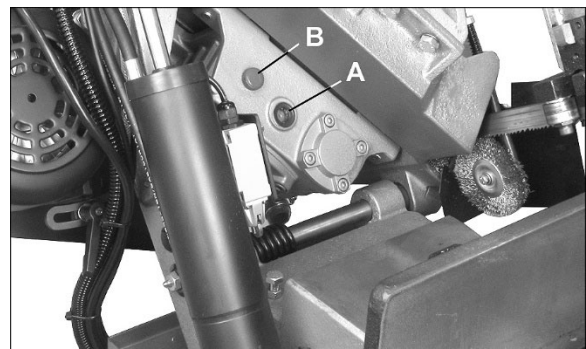

Figure 11-2: gear box fill hole and sight glass
To check gear box oil level, place bow in down position and wait a few moments for oil to settle. Check level in sight glass on side of gear casing (A, Figure 11-2). Oil level must be above red dot in middle of sight glass.
5. Remove fill plug (B, Figure 11-2) and insert approximately 850 mL (1/4 gal.) of Mobil® SHC Gear Oil 460, or equivalent.